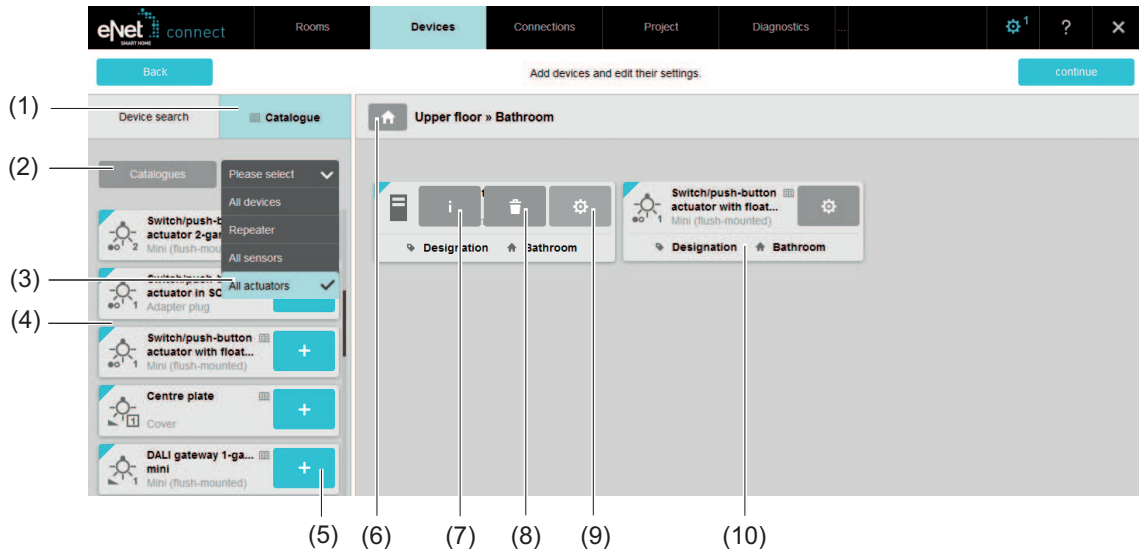

Figure 10: Adding catalogue devices - Example
For later changes, the window for device settings can be opened using the  button in the device display (Figure 10) (9).